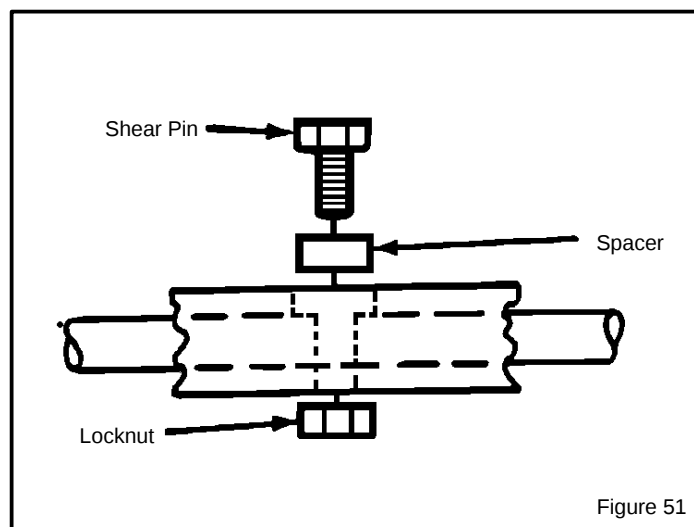

Figure 51
3. Align the hole in the auger with the hole in the auger shaft. Install new shear bolt, spacer and locknut found in the toolbox located on the belt cover (See Figure 51).